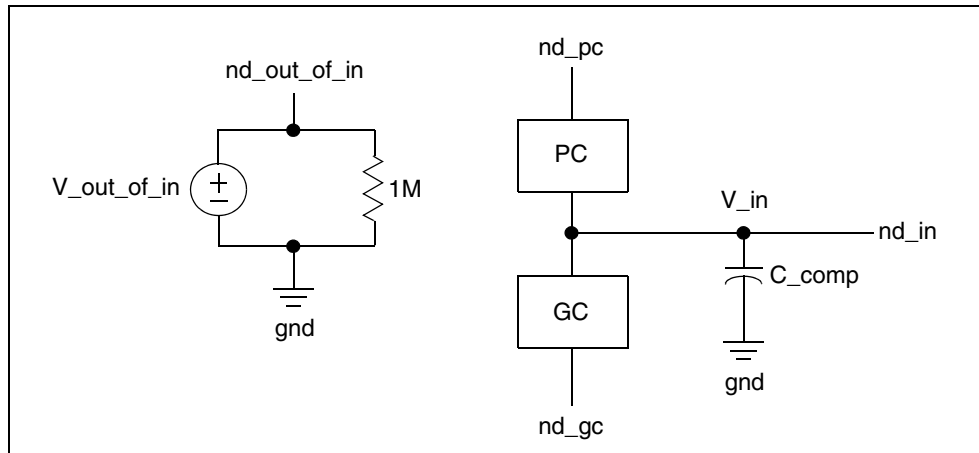

Figure 51 Input Buffer
*nd\_out\_of\_in* node. The *nd\_out\_of\_in* node is connected to the voltage source as shown in Figure 51 on page 184. It is an error to connect this node to a voltage source. If `power=off`, you can connect the *nd\_pc* and *nd\_gc* nodes to the ground, which sets the voltage to zero on these nodes.
Figure 51 on page 184 shows a single circuit specified on a single element card.  $V_{out\_of\_in}$  is a voltage source whose value is a function of  $V_{in}$  (and of  $V_{inl}$ ,  $V_{inh}$  thresholds, and Polarity parameter). You can use it to drive other circuits.